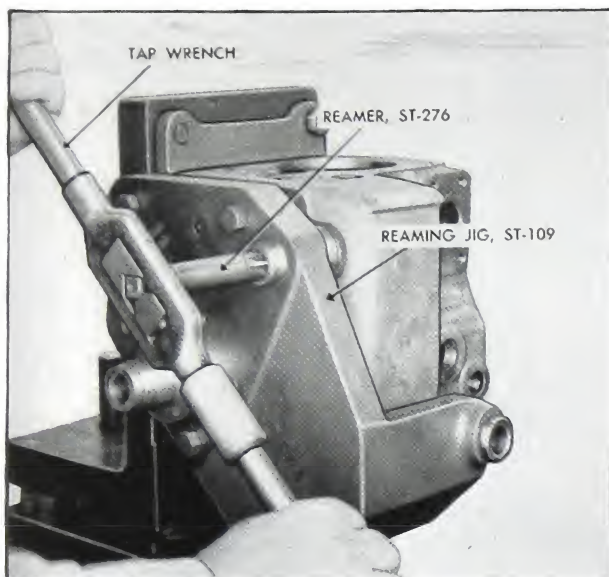

Fig. 5-107. Reaming plunger lever shaft bushings
6. Use a tap wrench as a driver for reamer ST-276 to ream both plunger lever shaft bushings as shown in Fig. 5-107.